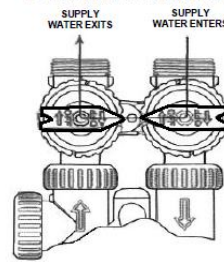

Figure 3 - Bypass
2. **Bypass Position:** The inlet and outlet handles point to the center of the bypass. The system is isolated from the water pressure in the plumbing system. Untreated water is supplied to the building (**Fig. 3**).
**STEP 9:** Turn on water supply. **MAKE SURE THE BYPASS VALVE IS IN THE “BYPASS” POSITION** (Figure3, Page 4) NOTE: the INLET and OUTLET knobs turn *clockwise* to close the port to the softener and *counter-clockwise* to open the port to the softener. Open the main supply valve or turn on power to the pump on private well systems. Check for leaks and correct as needed.
- 2) When the unit advances to the “Softening” cycle, turn the bypass knobs to the bypass position (page 4, figure3).